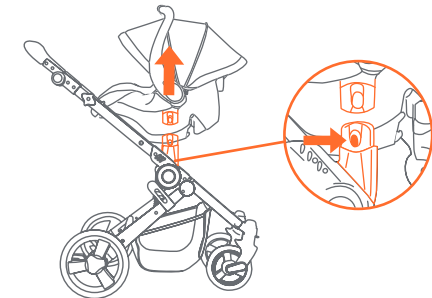

Fig. 18
- 18) • To take off the seat or the infant car seat, push both center buttons on each side of the seat and lift the seat upwards (Fig. 18). **DO NOT** remove with child in the seat.